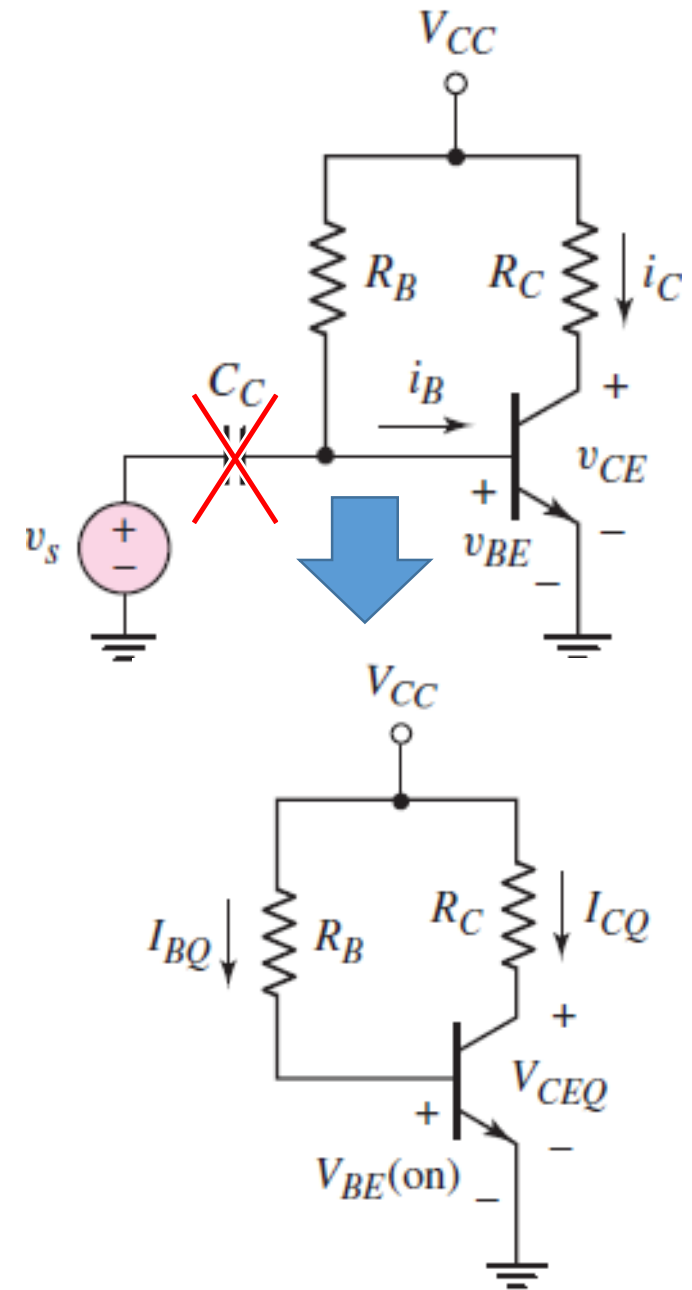

Figure 5.51
- **Specifications:** The circuit configuration to be designed is shown in Figure 5.51(b).